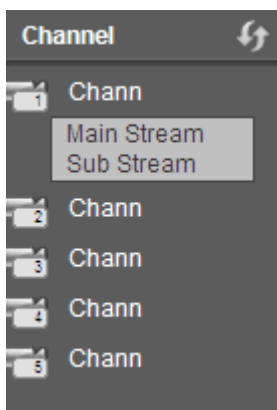

Figure 4-5
- Section 2: There are monitor channels successfully connected to the NVR. Please refer to Figure 4-5 for main stream and extra stream switch information.